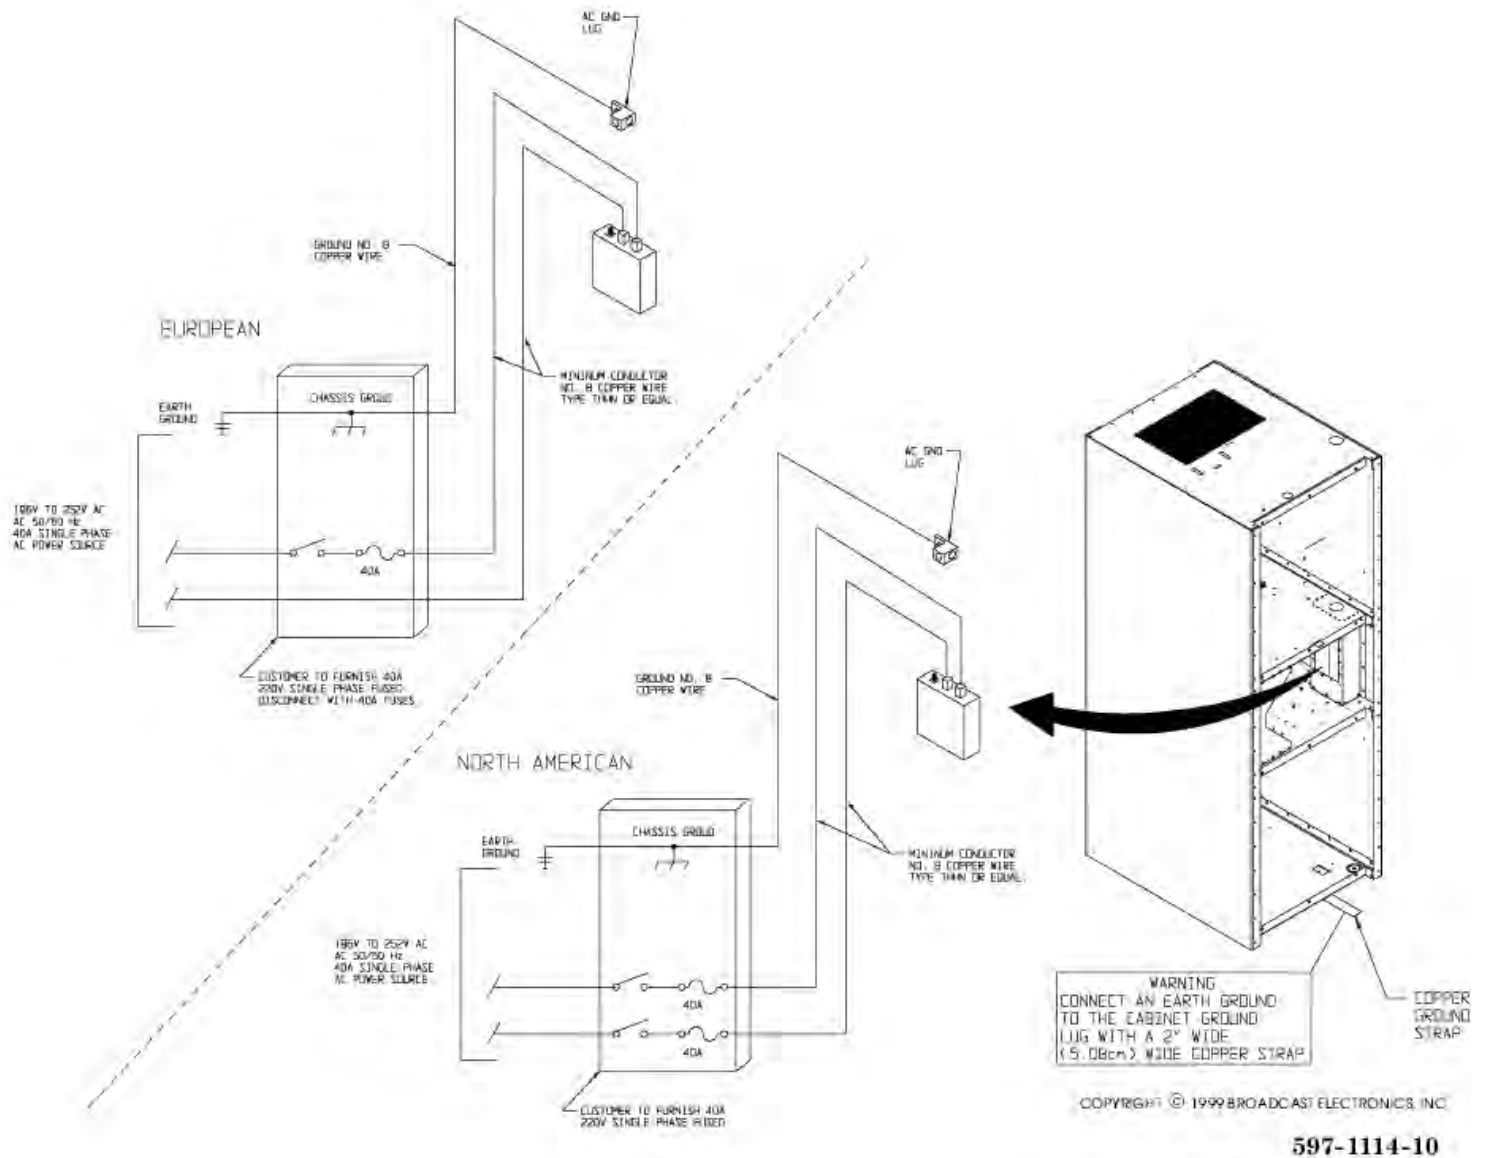
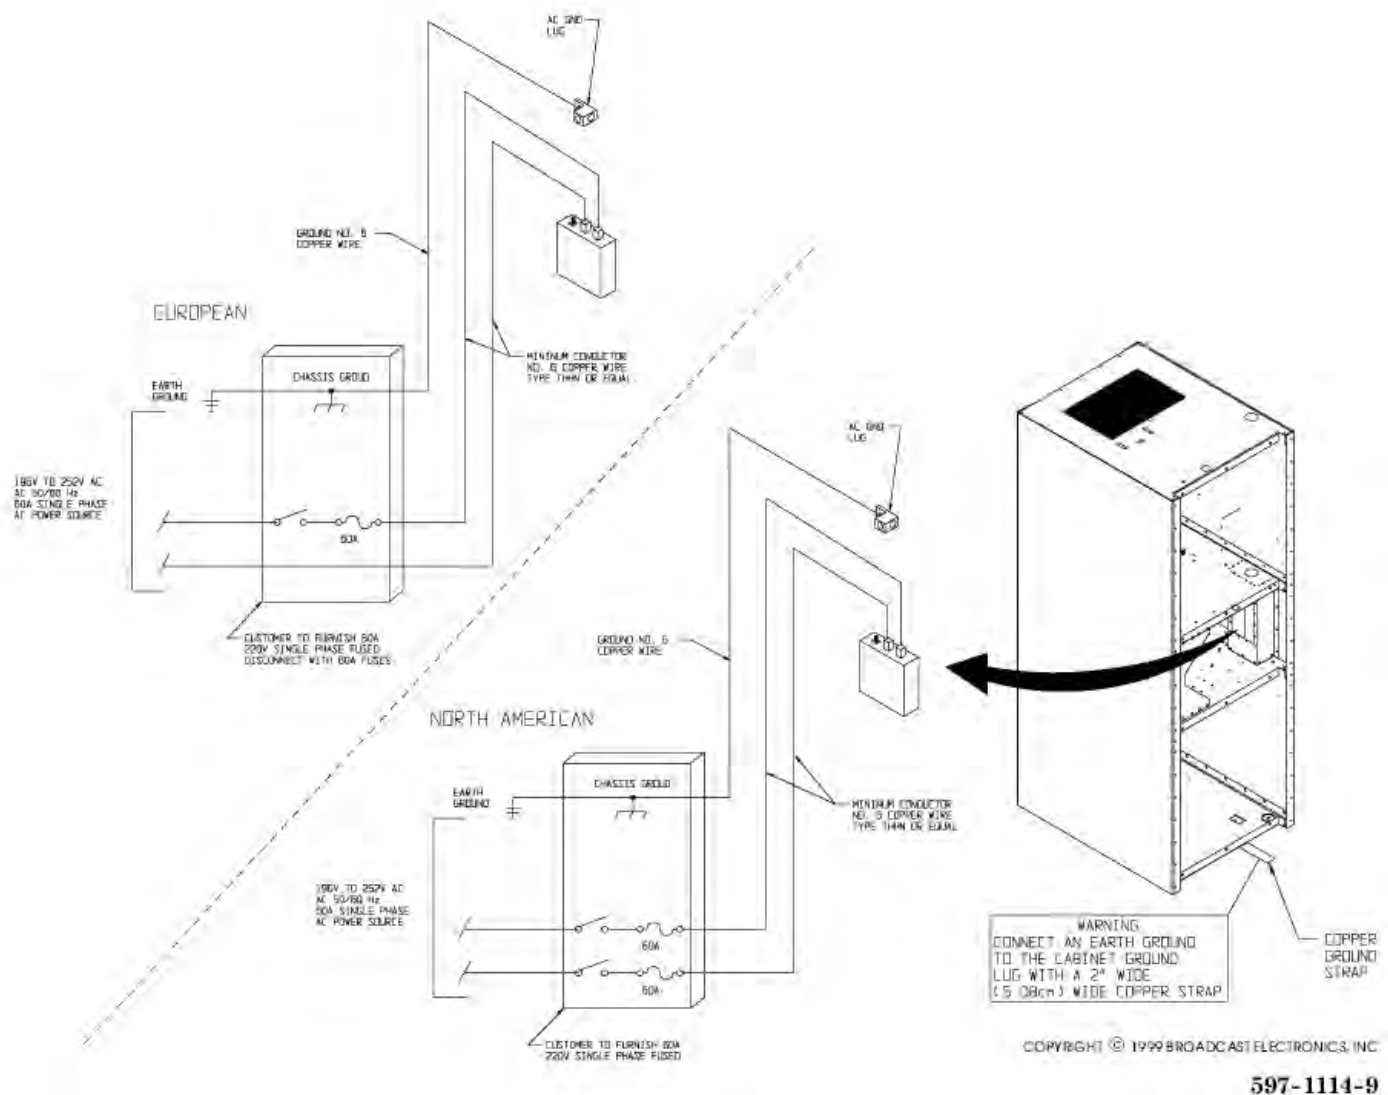

Figure 2-10: AM-2.5E PRIMARY AC WIRING
Figure 2-11: AM-5E PRIMARY AC WIRING
- F. **AC POWER CONNECTIONS.** The AM-2.5E transmitter requires a single-phase source of 196V to 252V ac, 50 Hz or 60 Hz at 40 Amperes. The AM-5E transmitter requires a single-phase source of 196V to 252V ac, 50 Hz or 60 Hz at 60 Amperes. For operating safely, the power supply source must be routed to the transmitter through a fused power disconnect breaker (refer to Figure 2-10 and Figure 2-11).
- Main AC Input – AM-2.5E. Refer to Figure 2-10 and connect the 40 Ampere service to ac input/control device S1 through a fused service disconnect as shown. Ensure a utility company ground conductor is securely connected to the transmitter common ground system and the ac service ground wire is securely connected to the ac ground lug as shown.
- Main AC Input – AM-5E. Refer to Figure 2-11 and connect the 60 Ampere service to ac input/control device S1 through a fused service disconnect as shown. Ensure a utility company ground conductor is securely connected to the transmitter common ground system and the ac service ground wire is securely connected to the ac ground lug as shown.
- G. **GROUND.** The transmitter is equipped with a cabinets ground system for operating safety. The ground system requires the connection of an earth ground. Refer to Figure 2-10 and Figure 2-11 and connect an earth ground to the cabinet ground lug as shown using a 2 inch (5.08 cm) wide copper strap.